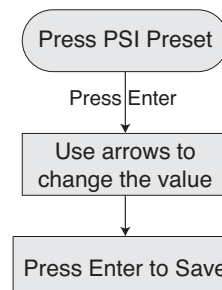

Figure 8-13: PSI Preset: Change PSI Setpoint
- ◆ Via the PSI Preset (Figure 8-13).